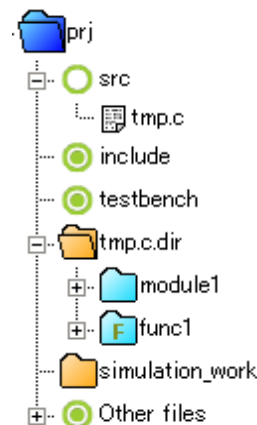
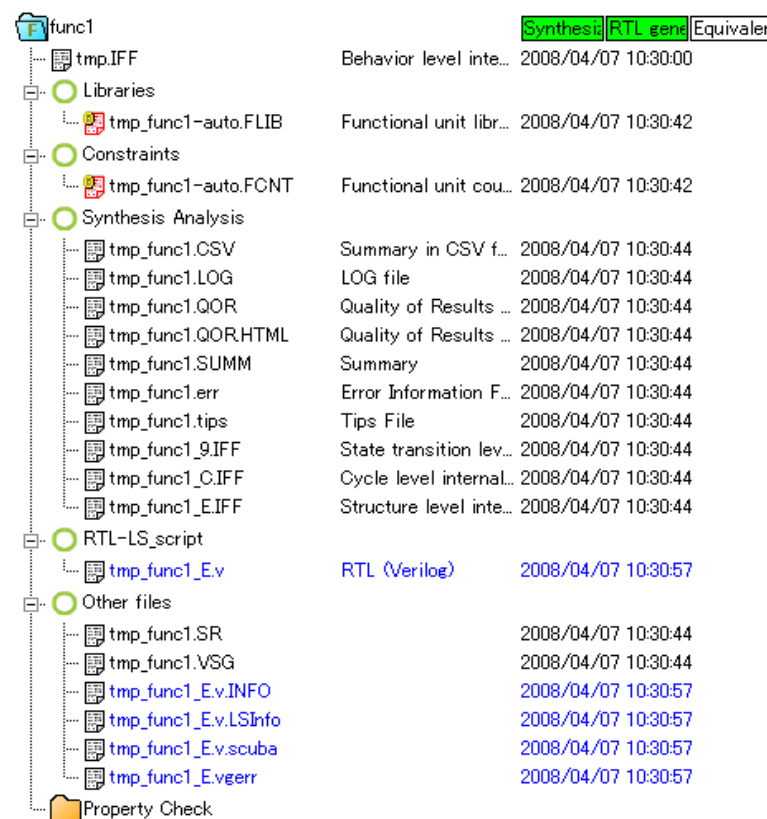

Figure 4-4 Process
Figure 4-5 Process folder configuration
Figure 4-4 shows that as a result of analyzing source code tmp.c, two process work folders func1 and module1 are generated under work folder tmp.c.dir of tmp.c.
If the process work folder is expanded, files related to the process are displayed. Figure 4-5 shows the expanded work folder of func1 process of Figure 4-4 .
- Source code analysis result file (tmp.IFF in Figure 4-5)
synthesis. (tmp_func1-auto.FLIB in Figure 4-5)
- **Constraints folder:** A folder to store constraint files that are used as input for behavioral input. (tmp_func1-auto.FCNT, tmp_func1-auto.MLMT in Figure 4-5)
- **Synthesis Analysis folder:** A folder to store result of behavioral synthesis. (tmp_func1.QOR.HTML, tmp1_func1_E.IFF etc in Figure 4-5)
- **RTL-script folder:** A folder to store RTL generated by behavioral synthesis (tmp1_func1_E.v etc in Figure 4-5)